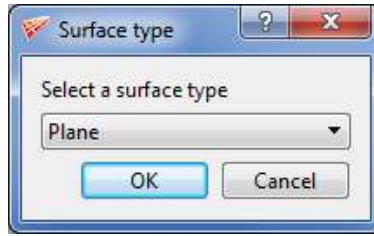

Figure 3.56: Surface type dialog box
**Replace** current is used to reposition or modify the surface parameter inputs for the CURRENT surface. It is one of the 3 buttons positioned under the **Edit (surface)** section of the Topology tab. Once clicked, a dialog box opens, as shown in Figure 3.56, where you need to select the surface type you want to reload; once you select a surface type, it opens the respective dialog box where you can modify the inputs. If the surface type 'External' is chosen, it opens the file menu from which you can select the desired surface. This helps in loading a new surface in place of the existing one without losing the surface assignments. Note that the changed position (specific to built-in surfaces) using the replace button can be undone from the **Topology** tab.